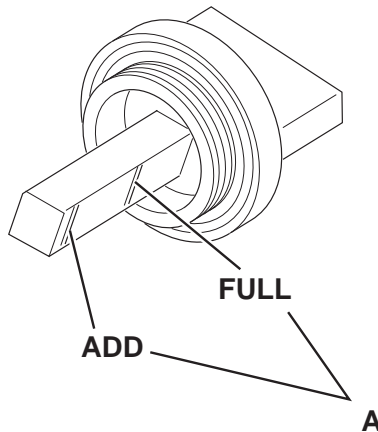

Figure 27
2. Engage the parking brake with the pedal (82) and the lever (75).
3. Turn the ignition key (69) to "0".
4. Open the hood (23) and fasten it with the support rod (55).
5. Remove the screws (45), then disengage the fasteners (46) to remove the engine guard (44).
6. Unscrew the engine oil level plug (34) and clean it with a clean cloth. Fully screw down the oil level plug (34) then unscrew it again after a few seconds, and check that the oil level is between the ADD (minimum level) and FULL (maximum level) marks (A, Fig. 27).
11. Install the filler plug (35).
12. After a few seconds, unscrew the engine oil level plug (34) again and check that the oil level is between the ADD (minimum level) and FULL (maximum level) marks (A, Fig. 27).